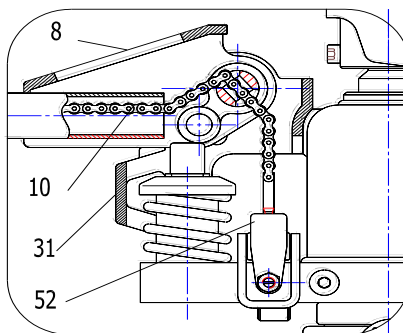
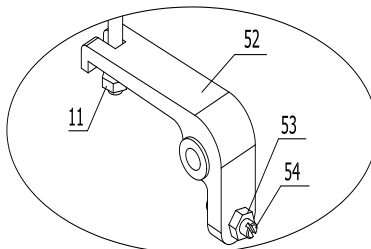

Fig.2
Fig. 4
3.4 Cross the chain 10 of the Handle Tube through the hole of the pin shaft 23. Please refer to Fig.2.
3.5 Put the Screw and nut at the end of chain 10 into the slot of the lever plate 52. Please refer to Fig.2 and Fig.4.
4.2 The screw 53 in fig 4 is used to adjust the truck situation. When the truck body drops immediately after it is lifted, you should turn the screw 53 a little counter-clockwise. And then try the truck again until truck body could lift normally. If the truck body couldn't drop after it is lifted, you should turn the screw 53 a little clockwise. And then try to operate truck again until the truck body could drop normally. The external hexagon nut 54 at screw 53 plays the locking function in the truck. So you should undo the external hexagon nut before adjustment. And screw down the nut after you finish the adjustment.